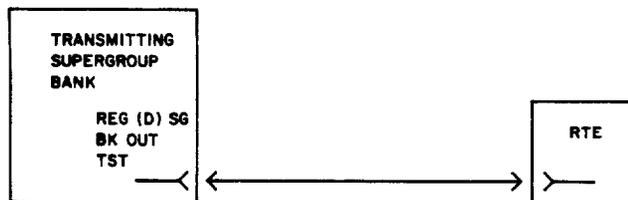

Fig. 1—Suggested Monitoring Point
- 3 Connect the RTE to the monitoring point determined in Step 1 (Fig. 1).